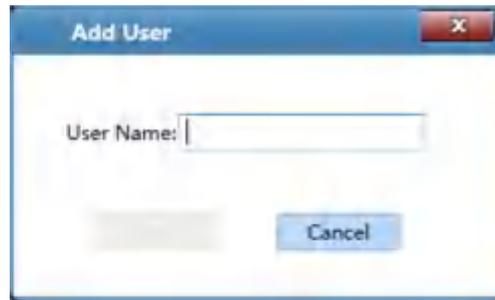

Figure D-1.1b Quick start bar - Add User
- **Register New User Account:** user can click < **Switch User** > and select **Add User** option in the drop-down menu of **User Name** input box, the application software will automatically pop up the add user dialog box, as shown in figure D-1.1b. Please enter a new user account